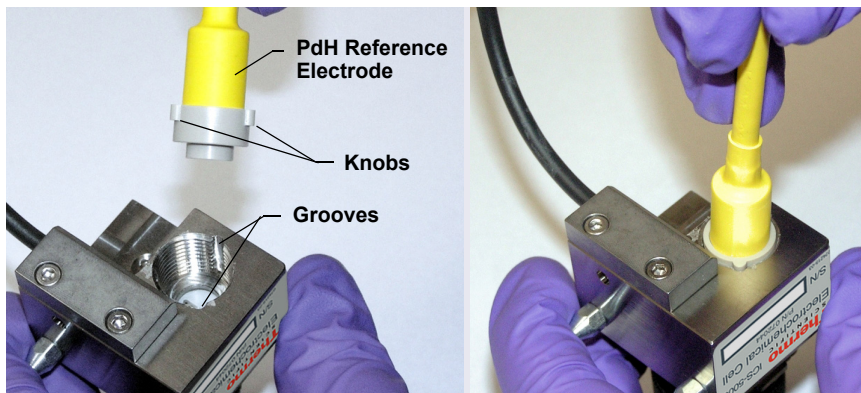

Figure 10-75. Inserting the PdH Reference Electrode Fitting into the Reference Electrode Well
8. Align the fitting on the end of the PdH reference electrode so that the knobs on the fitting align with the grooves in the reference electrode well (see Figure 10-75).